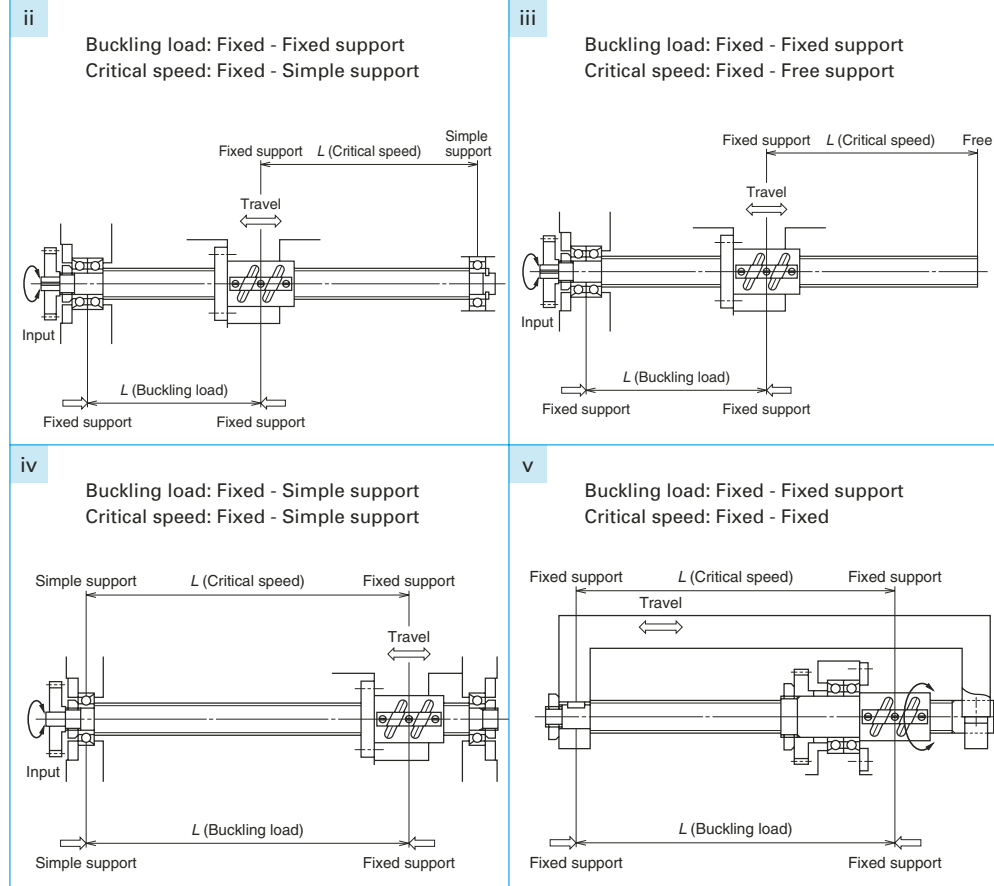

Fig. 4.1 Supporting conditions for screw shaft and ball nut
L : Unsupported length (mm) (See Figs. 4.1, and 4.2 "Supporting conditions of screw shaft and ball nut" on page B51)
Supporting condition is Fixed - Simple support (From the supporting condition (ii) in Fig. 4.1 "Supporting conditions of screw shaft and ball nut" on page B51.)
**Figs. 4.1 and 4.2** are typical conditions in supporting ball screws. Use them as reference to calculate the buckling load and the critical speed. Please consult NSK if it is necessary to scrutinize calculation due to use conditions, or if boundary conditions are not clear due to special installation.